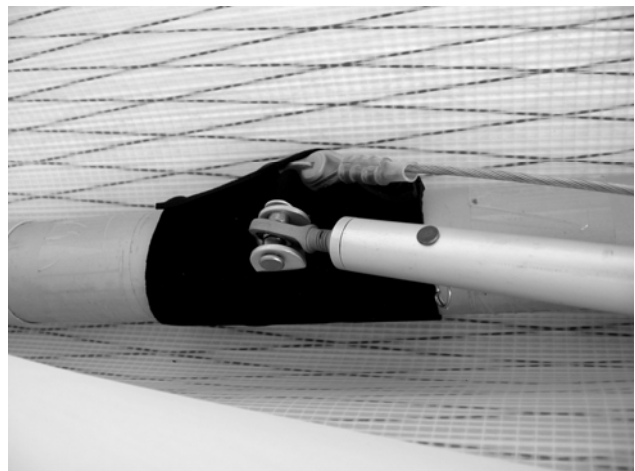

Fig. 30
1. Fully unzip the access zipper to gain access to the sprog-LE tube connection.( Fig.30)